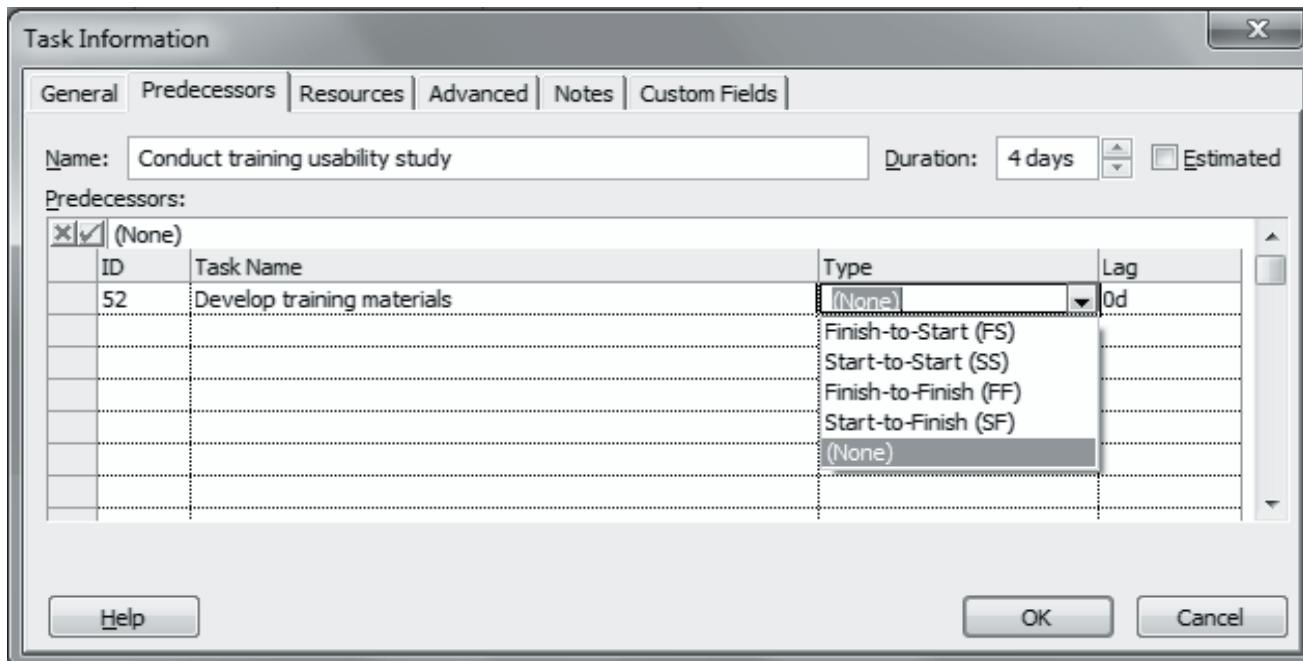

Figure 5.9: Deleting Dependency Links Between Tasks Using Task Information Dialog Box
3. On the **Predecessors** tab, from the drop-down list in the **Type** column for the dependency, choose **None**, as shown in figure 5.9.
Figure 5.9 illustrates deletion of dependency links using the Task Information dialog box.